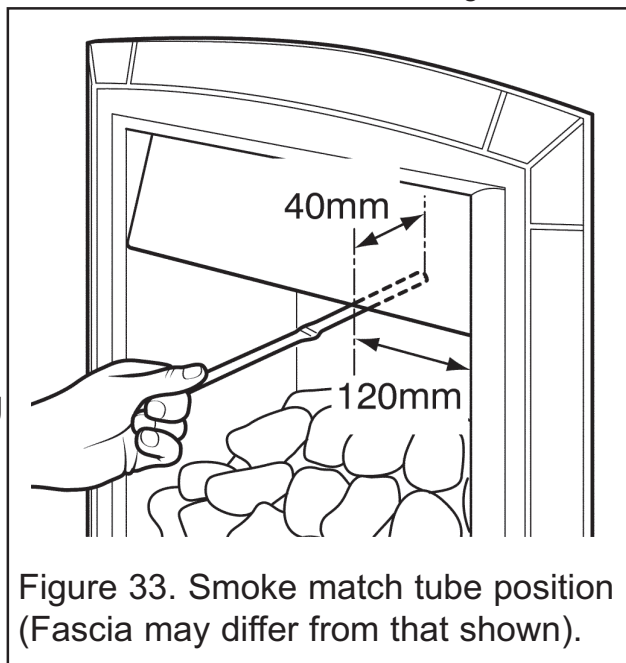

Figure 33. Smoke match tube position (Fascia may differ from that shown).
4. The smoke match should be placed horizontally into the convection box at the right hand side. There is a notch in the black cross member. Insert the tube so that the neck of its flared end is 5mm passed and in contact the cross member (See figure 33). The installation is satisfactory if the smoke is drawn into the appliance.